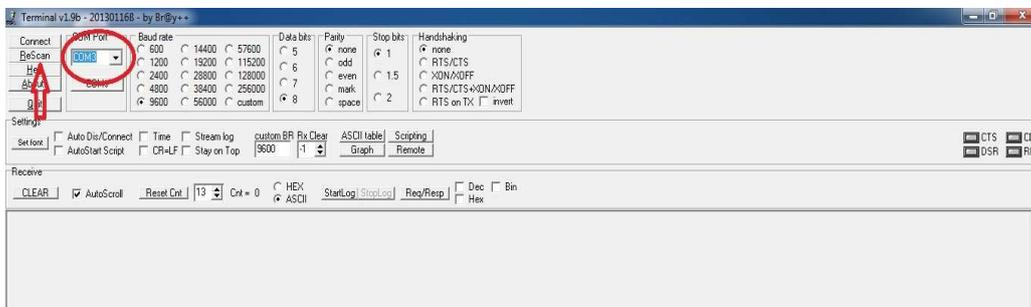

Figure 14. Computer communication port selection.
8. Select the COM Port (also known as communication port) for the RS-232 connection (see Figure 14). If the correct port is not shown, click the rescan button as indicated below. Once scanning is completed, a communication port number will appear automatically on the COM PORT display. Click ‘Connect’ to connect to the system.